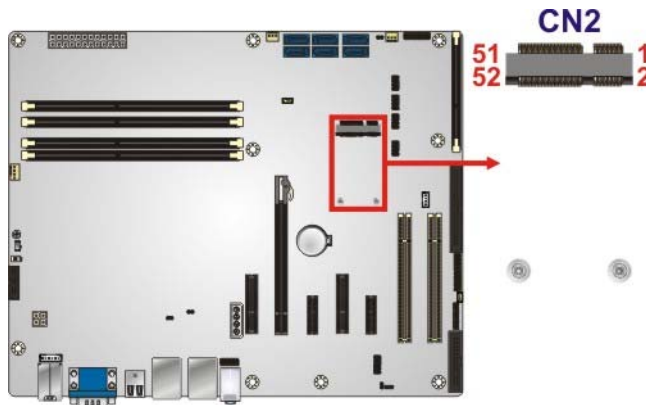

Figure 3-19: mSATA Card Slot Location
- CN Location:** See **Figure 3-19**